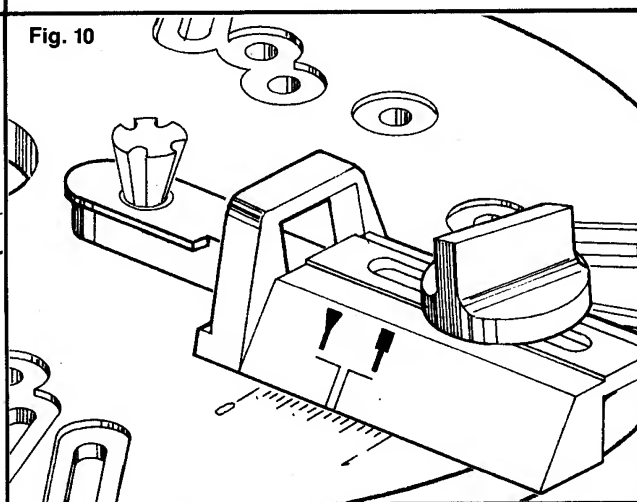

Fig. 10
5. Set sliding depth guide to the thickness of the wood to be cut by aligning the scale on the sliding depth guide ($\frac{1}{2}$ ") with the mark on the base plate corresponding to the type of bit you are using, i.e. dovetailing or box jointing. Lock into place and check (Fig. 10).